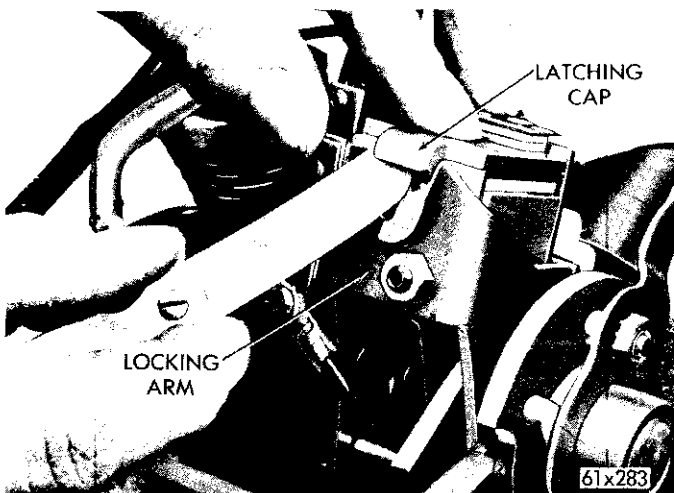

Fig. 10—Measuring the Clearance between the Locking Arm and Latching Cap
(1) Disconnect the swivel on the accelerator linkage rod from the exterior arm.
(2) Remove the Auto-Pilot drive mechanism cover.
(3) Turn the ignition "ON." Do not start the engine.
(4) Move the locking arm against the magnet and push the latching cap down to lock the magnet assembly and locking arm together.
(5) Use a feeler gauge to measure the clearance between the locking arm and latching cap (Fig. 10). The clearance should be .001" to .006". If less than .001" clearance, loosen the lock nut. Turn the adjusting screw "counterclockwise to obtain proper clearance. If more than .006" turn the adjusting screw "clockwise." Tighten the lock nut.
(6) Turn the ignition "OFF" and replace the cover.